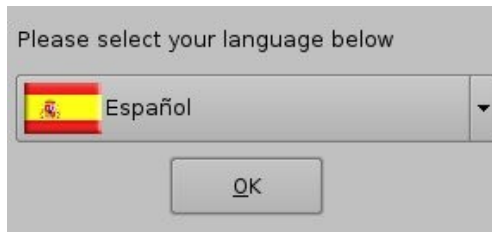

Figure 112: Language Setup Window - Espanol
- Use the list-box to choose desired language, for example, Espanol (Figure 112).